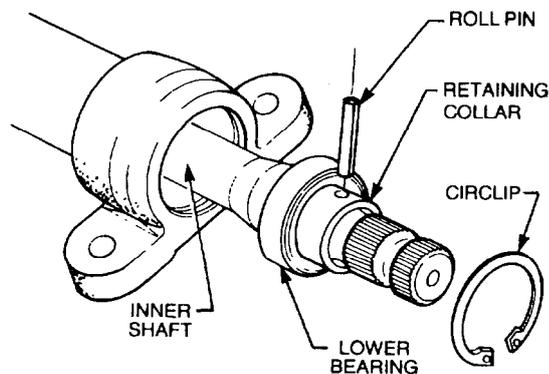

Figure 89 Inner Shaft and Bearing Removal
- b.** Using a suitable drift, remove the inner shaft complete with the bearing from the upper end of the column (Figure 89).